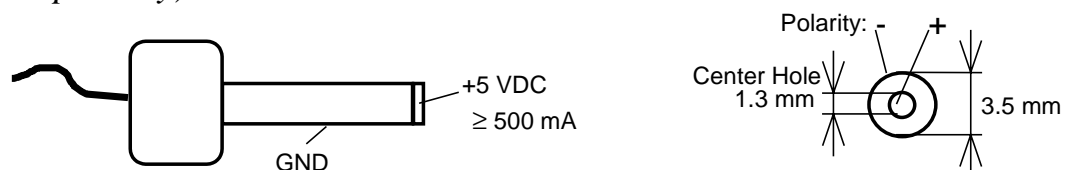

Figure 3: Power Connector
- Using the included power adapter, connect the power socket on the board (X1) to a power supply (refer to Figure 3 for the correct polarity).